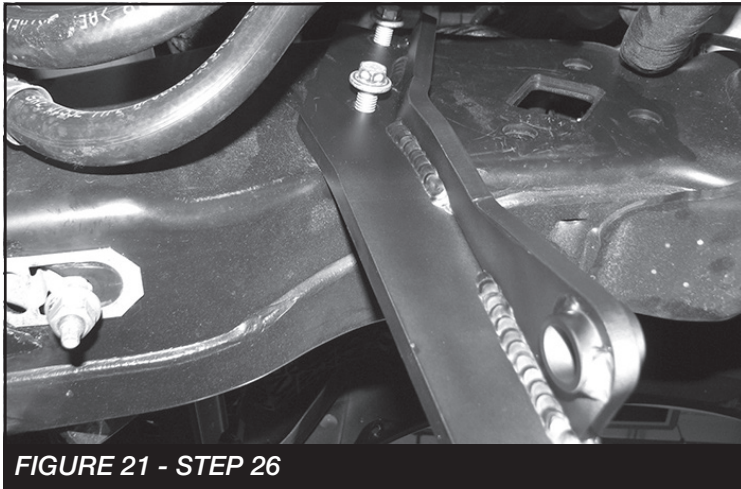

FIGURE 21 - STEP 26
26. Install FT30672 (steering stabilizer drop bracket) in the factory location using the factory hardware. Torque to 127 ft-lbs. **SEE FIGURE 21**